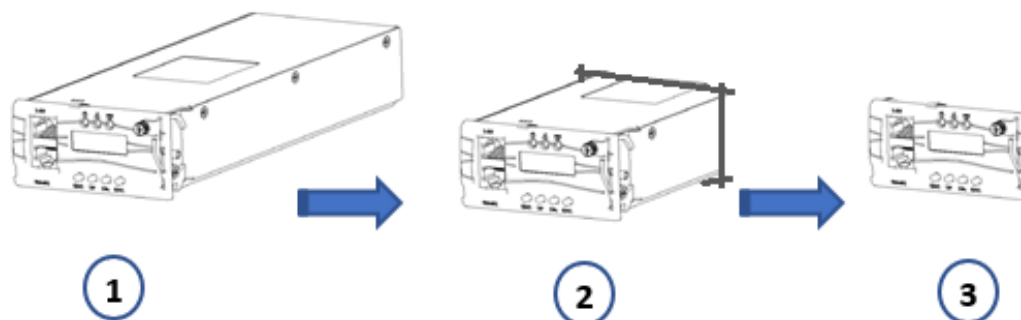

Figure 17.3.1 Controller Replacement
- II. The controller has the function of hot swapping, unscrewing the loose screw at both ends of the controller and pulling the controller out. Insert the new controller and fasten the unscrewed screw. As shown in Figure 17.3.1.